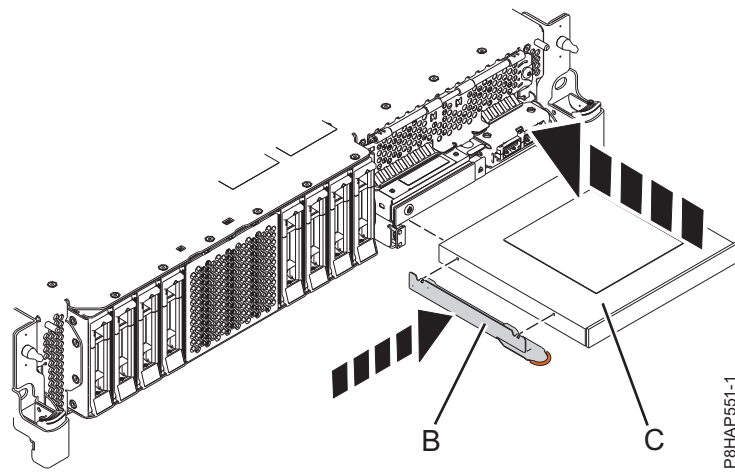
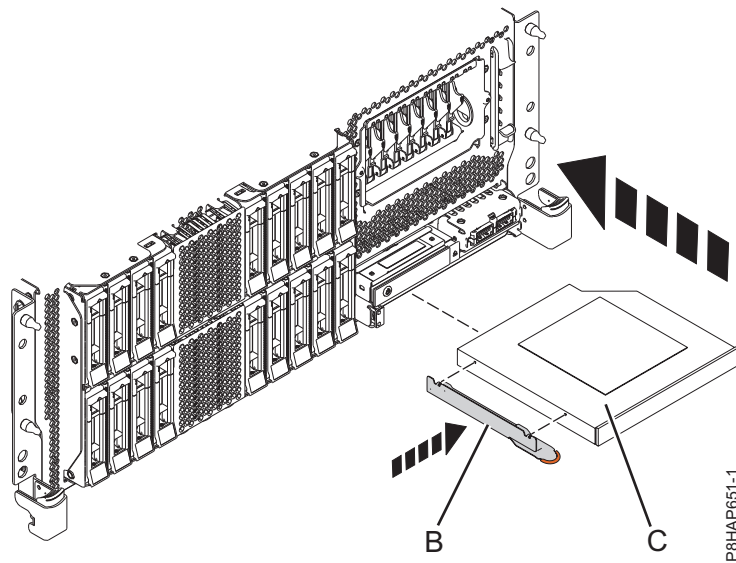
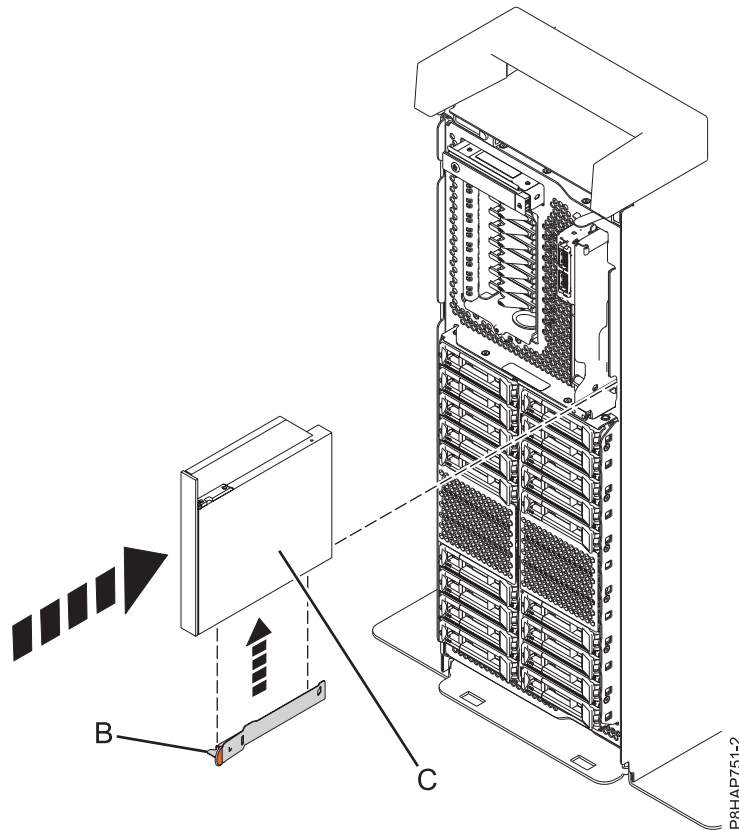

Figure 20. Installing a Slimline media device in an 5148-21L, 5148-22L, 8247-21L, 8247-22L, 8284-21A, or 8284-22A system
Figure 21. Installing a Slimline media device in a rack-mounted 8247-42L, 8286-41A, or 8286-42A system
Figure 22. Installing a Slimline media device in a stand-alone system
4. Attach the retaining-bracket (B) to the new Slimline media device, as shown in Figure 20 on page 25 for an 5148-21L, 5148-22L, 8247-21L, 8247-22L, 8284-21A, or 8284-22A system, Figure 21 on page 25 for a rack-mounted 8247-42L, 8286-41A, or 8286-42A system, or Figure 22 on page 26 for a stand-alone 8286-41A system.
5. Align the Slimline media device (C) with the media bay, and support the bottom of the device as you slide it halfway into the system.
For an 5148-21L, 5148-22L, 8247-21L, 8247-22L, 8284-21A, or 8284-22A system, see Figure 20 on page 25, for a rack-mounted 8247-42L, 8286-41A, or 8286-42A system, see Figure 21 on page 25, or for a stand-alone 8286-41A system, see Figure 22 on page 26.